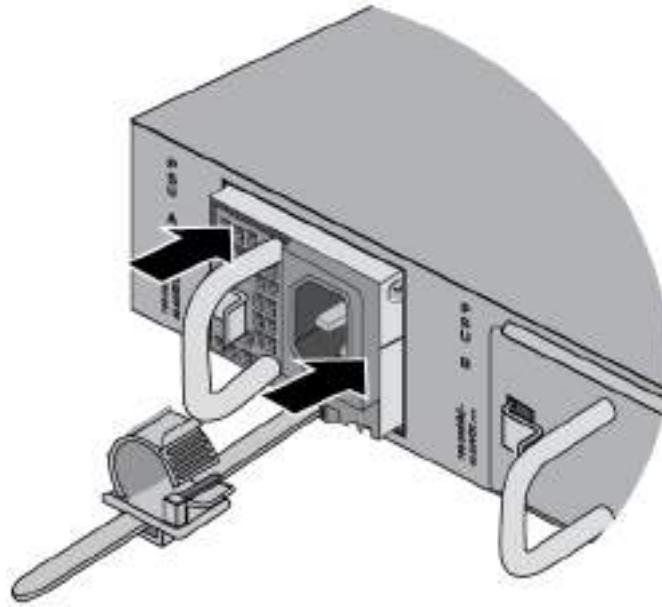

Figure 39. Seating the Power Supply on the Internal Connector
4. When the power supply makes contact with the connector inside the switch, gently press on its faceplate to seat it on the connector. Refer to Figure 39 on page 87.